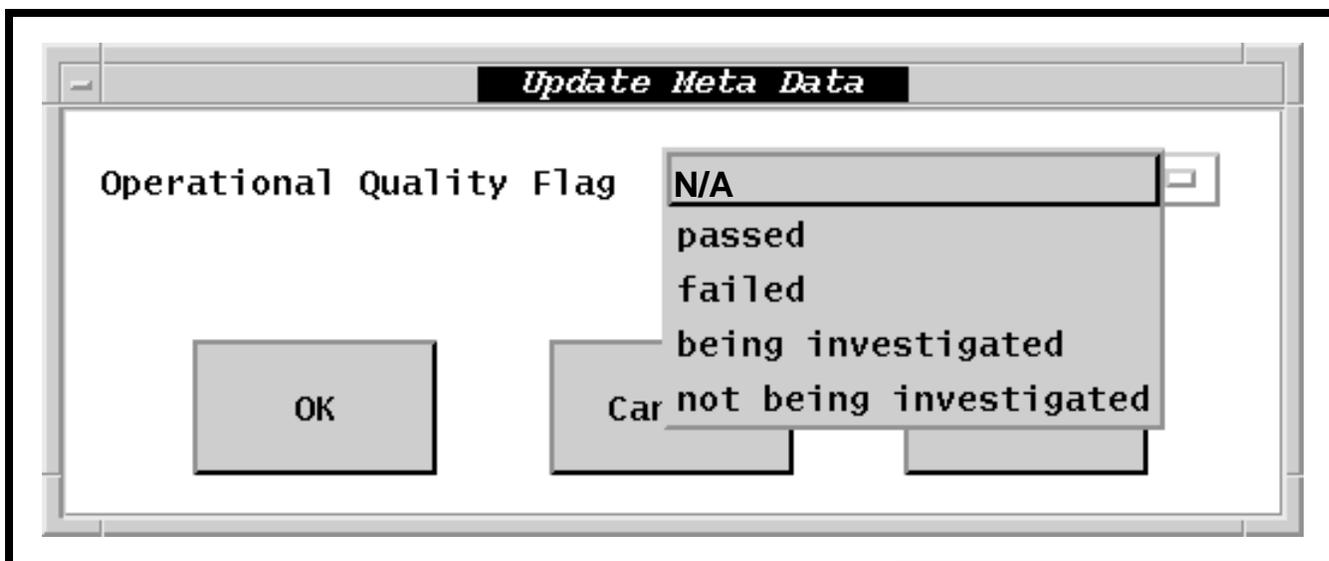

Figure 35. Q/A Monitor GUI - Update Meta Data Window
- The **Q/A Monitor** GUI **Update Meta Data** dialog box (Figure 35) is displayed.